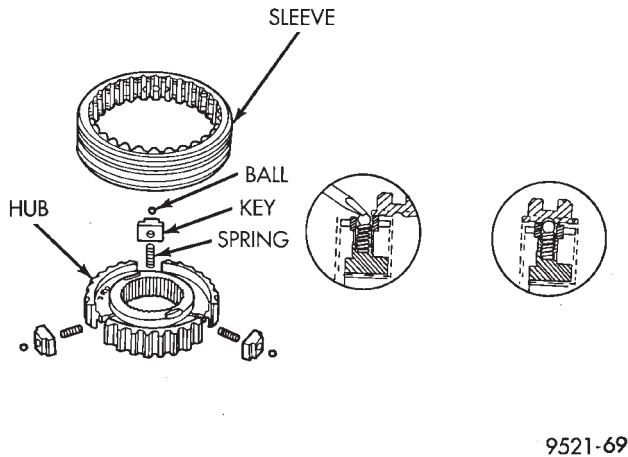
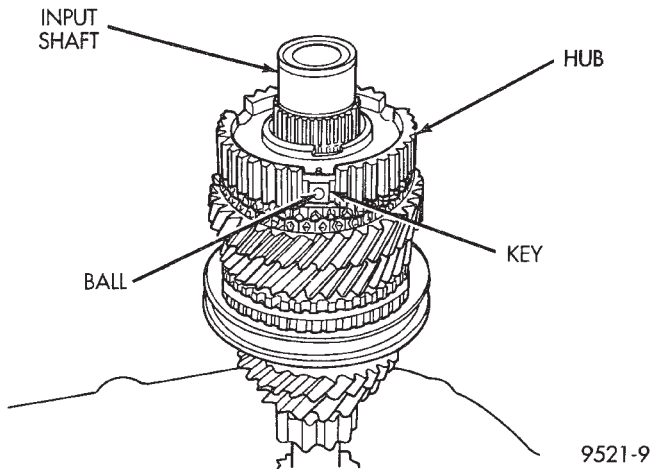

Fig. 126 Synchronizer Assembly
Fig. 127 Synchronizer Balls
(1) Position synchronizer hub onto a suitable holding fixture (input shaft). The synchronizer hubs are directional. The hubs must be installed with the U facing upward.
(2) Install springs into hub slot (Fig. 126).
(3) Insert key into hub and spring.
(4) Apply petroleum jelly to the hole in the key. Insert balls into each key (Fig. 127).